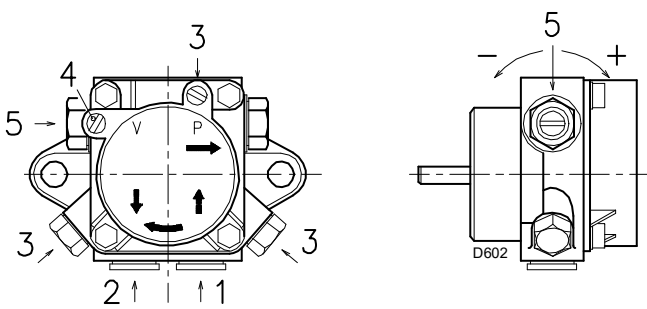

Fig. 18
For the priming pump loosen the screw 3)(Fig. 18) in order to bleed off the air contained in the suction line and wait until the fuel flows out.
Key (Fig. 18)
- In order for self-priming to take place, one of the screws 3)(Fig. 18) of the pump must be loosened in order to bleed off the air contained in the suction line.